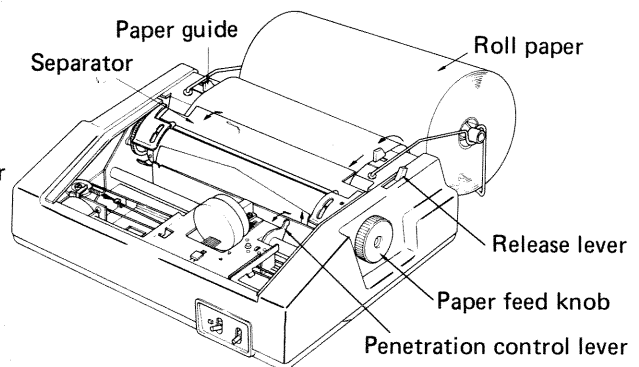

Fig. 4
7. Tilt the Separator (see Figure 4) forward.
8. Insert the paper into the paper insertion opening (see Figure 4) and push the Release Lever back towards the rear of the Printer. Turn the Paper Feed Knob (see Figure 4) until the paper appears between the platen and paper press.